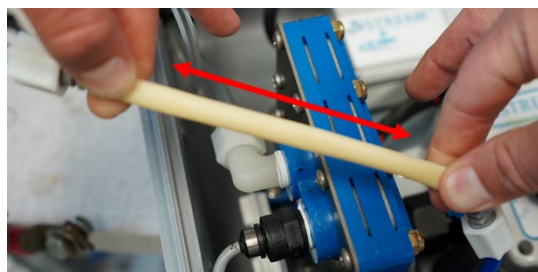

Figure 3-9. Stretching Peristaltic Tubing
- Grip the tubing at both ends, just behind the gray fittings, and stretch it by a few inches (Figure 3-9)